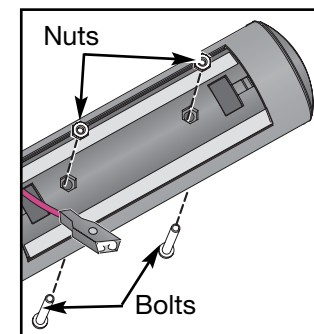

Figure 30
- F. While being careful not to overtighten and crack the housing, place the nuts in their holes and secure them with the bolts. **NOTE:** It is easier to place the nuts on the top and the bolts from the bottom. See Figure 30.